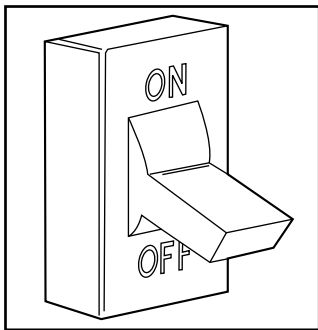

Fig. 18 – Turn Off Electrical Supply
3. Turn off electrical supply to the furnace. See Fig. 18.